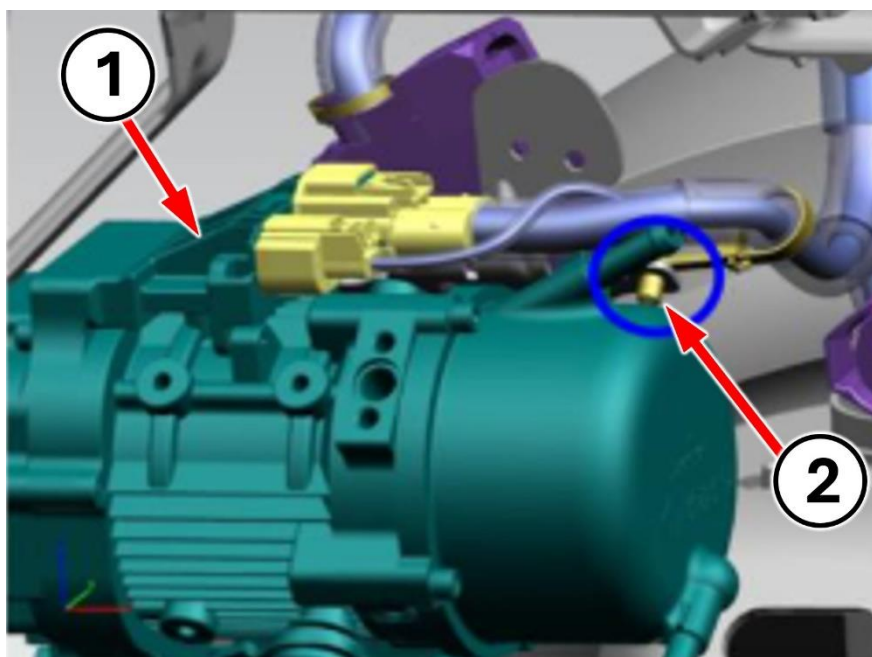

Figure B5 – Power Steering Pump Wire Harness Routing and Clipping
- **NO:** If no issues can be found with EHPS electrical connection, ensure wire harness is routed and secured properly (Figure B5). Reinstall the power steering pump reservoir and tighten the bolt to 5 N·m (44 In. Lbs.) (Figure B1).